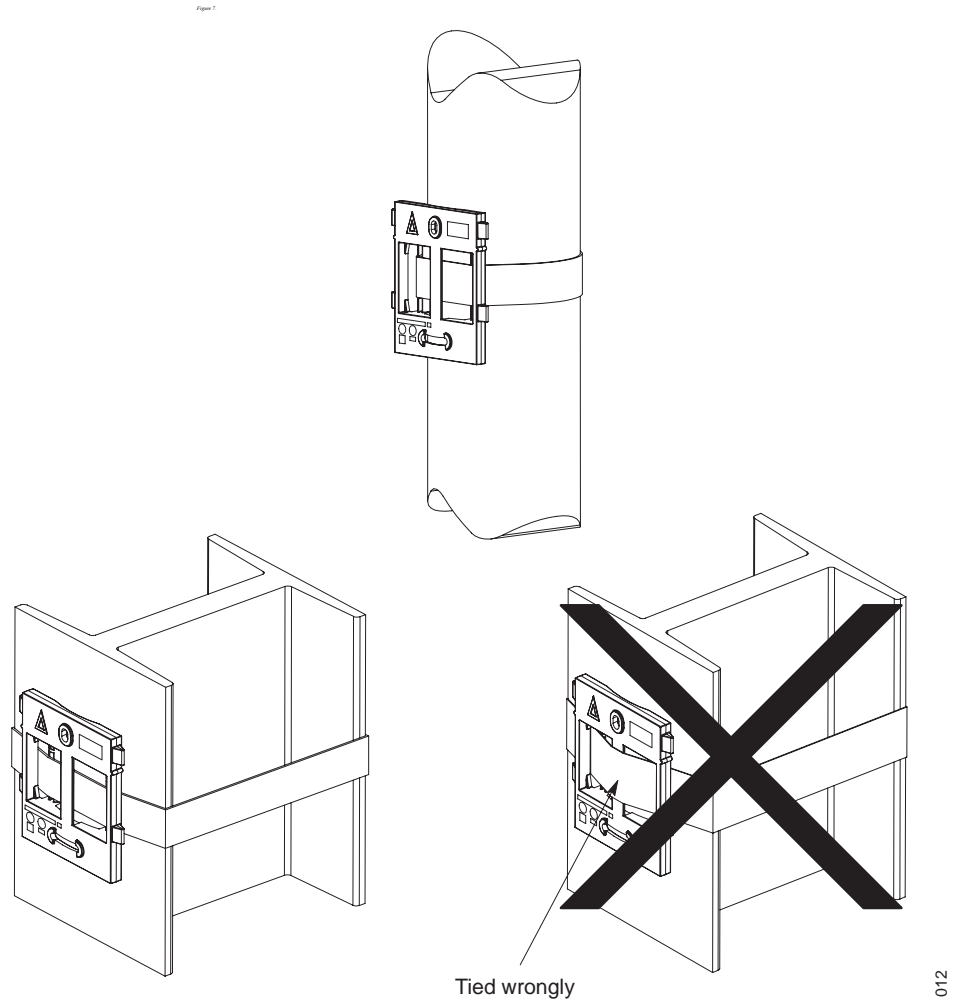

Figure 7. Fixing the mounting bracket to a pole or beam.
- 1 Fix the mounting bracket to a pole or beam using the metal band, see figure 7 on page 27.